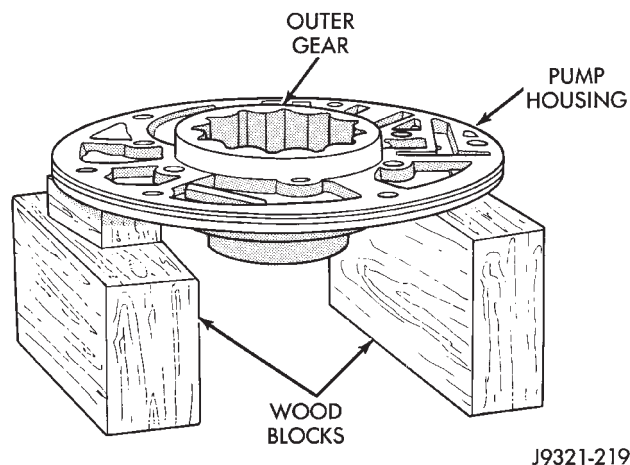

Fig. 144 Supporting Pump And Installing Outer Gear
(1) Lubricate gear bore in pump housing with transmission fluid.
(2) Lubricate pump gears with transmission fluid.
(3) Support pump housing on wood blocks (Fig. 144).
(4) Install outer gear in pump housing (Fig. 144). Gear can be installed either way (it is not a one-way fit).